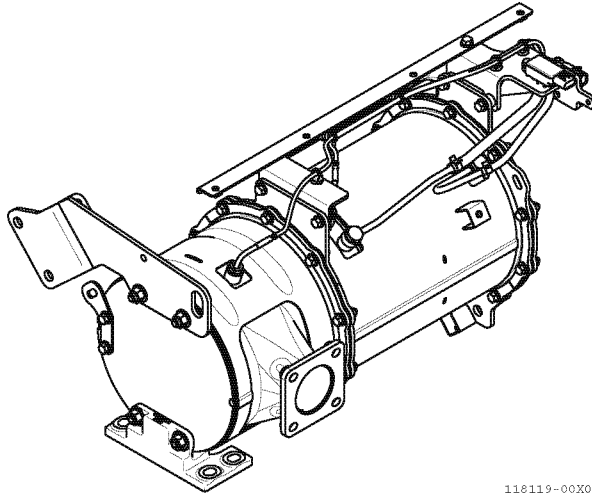

Fig.25-55
2. Fig.25-55 shows the condition when the DPF is installed alone.